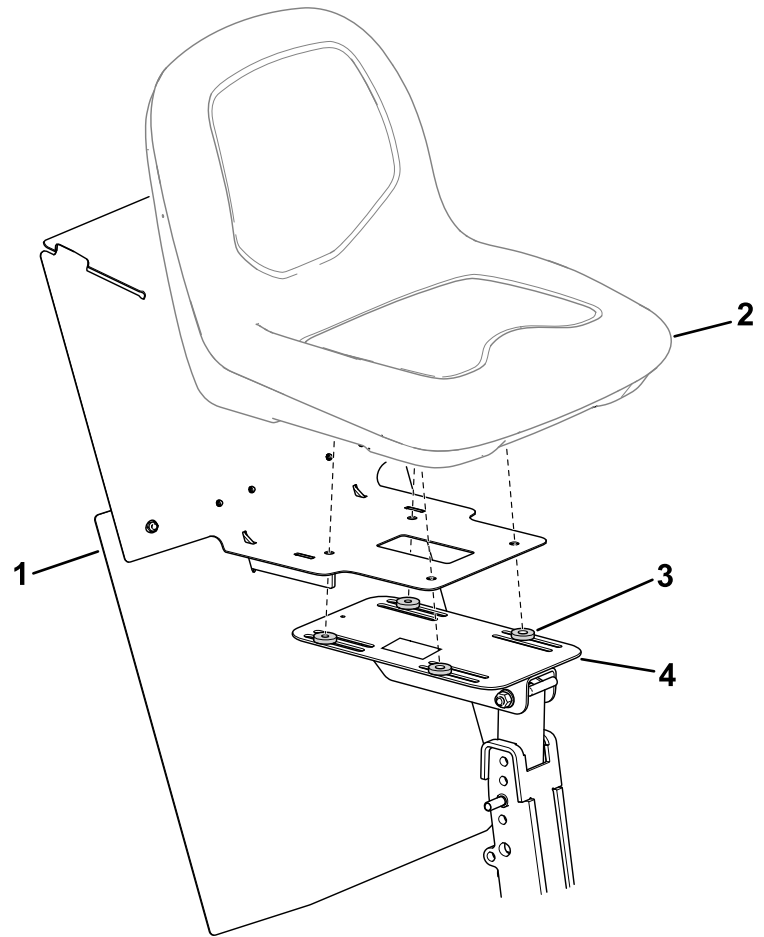

Figure 17
3. Position the spacers, heat shield, and seat on the seat mount (Figure 17).